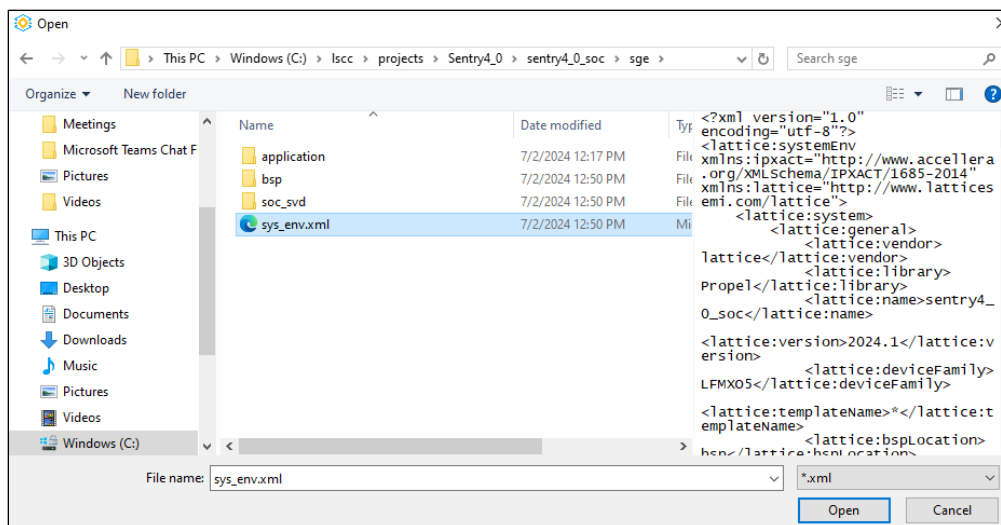

Figure 6.2. Directory Location of sys_env.xml
2. In the Update System and BSP dialog box, click **Browse** next to **New System Env** and navigate to the following file (Figure 6.2):